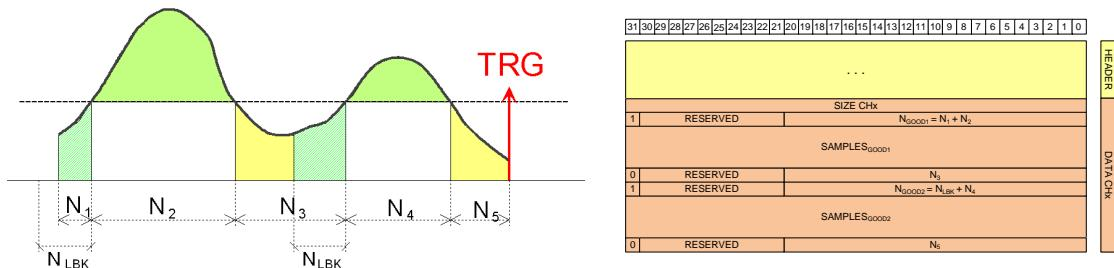

Fig. 7.11: Example with positive logic, N_{LBK} overlapping with N_1 , and $N_{LFWD} = 0$.
2. In some cases the number of data to be discarded can be smaller than N_{LBK} and N_{LFWD} : For example, consider the case where $N_1 \leq N_{LBK} < N_3$ and $N_{LFWD} = 0$ (positive logic) as reported in Fig. 7.11. The corresponding event format is reported on the right. All N_1 samples are tagged as good and acquired.